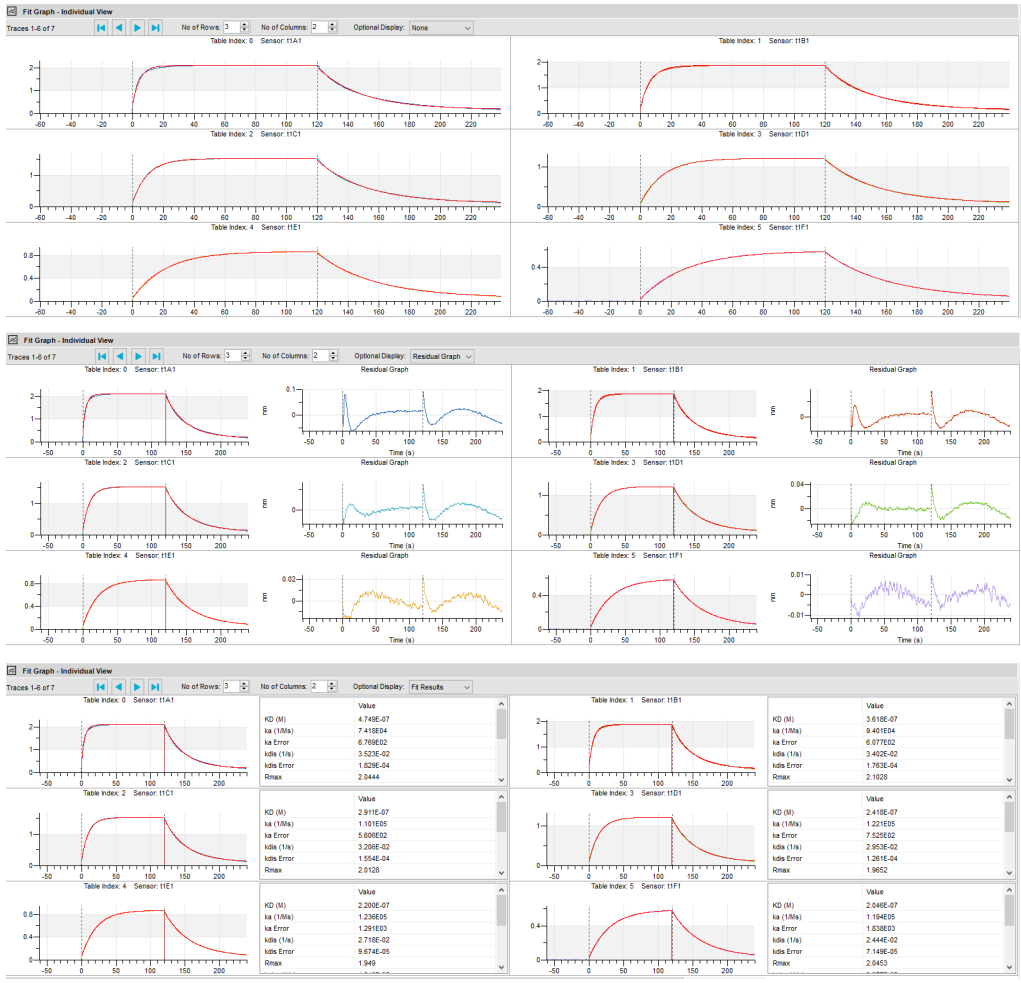

Figure 5-14: Individual View Options: None (Top), Residual Graph (Middle), Fit Results (Bottom)
- Change what displays by clicking the **Optional Display** dropdown menu (Figure 5-14):